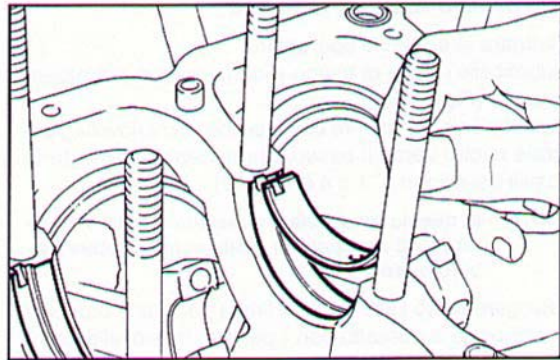

Fig. 137 ▲
- fit the main bearings (bushings) into the crankshaft supports in the engine block and in the crankcase (Figs. 137 and 138);